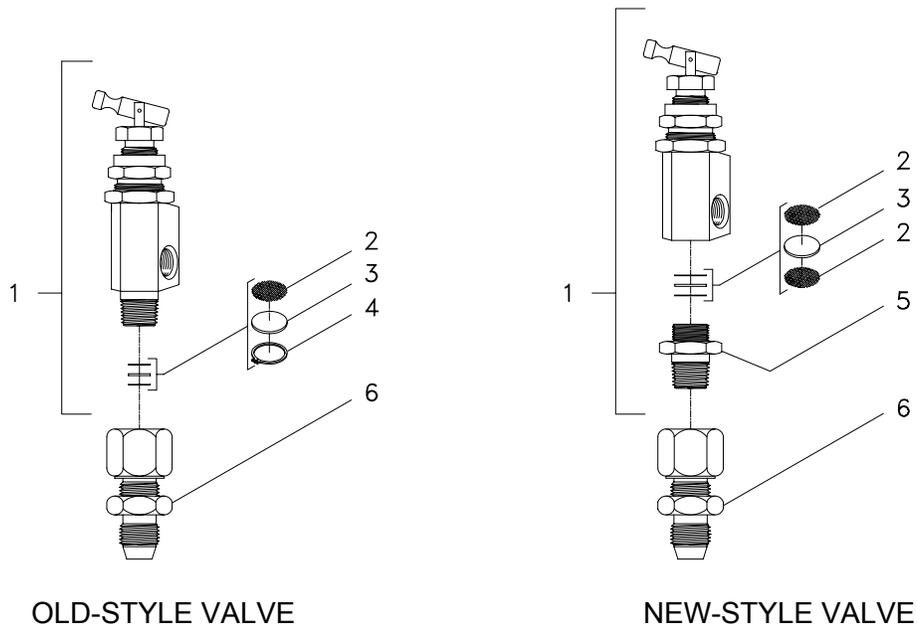

Figure 6-9. Pilot Valve (ALP-V403)
- (1) Ensure replacement valve has been cleaned in accordance with MIL-STD-1330 or other approved NAVSEA cleaning procedure for life support systems.
- (2) Wrap Teflon® tape around inlet threads on adapter end of new plug valve.
- (3) Insert taped end of new plug valve into adapter, and tighten union nut with wrench.
- (4) Pressurize system and leak test valve using NID solution prepared in accordance with paragraph 4.7.3.2. Correct leaks as necessary.
- (5) Complete reentry control report and log.
6.8.2.7 Pilot Valve (ALP-V403). Corrective maintenance for the compressor pilot valve (ALP-V403) consists of removal and replacement of the valve, as well as cleaning or replacement of the filter components. Two versions of this valve are authorized for use with the LWDS, each containing a different type of inlet and filter design. The old-style valve, which is shown on the left in Figure 6-9, features a removable filter screen (2), felt (3), and ring (4) installed in the tip of the valve inlet, which is an integral part of the valve body. The new-style valve features a filter composed of felt (3) sandwiched between two screens (2). The filter is located inside the valve body and held in place with a filter nut (5). Corrective maintenance for the filters must therefore be adapted to the style of valve that is installed on the compressor manifold. While the old-style
valves are still approved for use, they are no longer available from the manufacturer and will be automatically replaced with the new-style valve when ordering. Refer to Figure 6-7 for valve location and to Figure 7-30 for an index of replacement parts for ALP-V403, which is the only valve of its type in the system. The callouts in the following procedure refer to Figure 6-9, which depicts both an old-style and new-style pilot valve removed from the bulkhead connector (6).
- (1) Remove hose adapter from side port in pilot valve (1).
- (2) **For replacement or cleaning of old-style valve or for replacement only of new-style valve:** Remove valve (1) from bulkhead connector (6). If necessary, remove bulkhead connector from manifold first, and then remove bulkhead connector from valve. Remove all traces of Teflon® tape from threads inside bulkhead connector, and from old-style valve inlet if filter components are to be cleaned or replaced.
- (3) **For cleaning of new-style valve filter only:** Remove top portion of pilot valve (1) from filter nut (5) as shown in Figure 6-9. If necessary, remove bulkhead connector (6) from manifold first, and then remove filter nut (5) from valve body.
- (4) If bulkhead connector (6) was removed from manifold in step (2) or (3), remove, cut, and discard bulkhead connector O-ring.
- (5) If cleaning or replacement of filter components is required, continue with step b; otherwise, proceed to step c for installation of new valve.